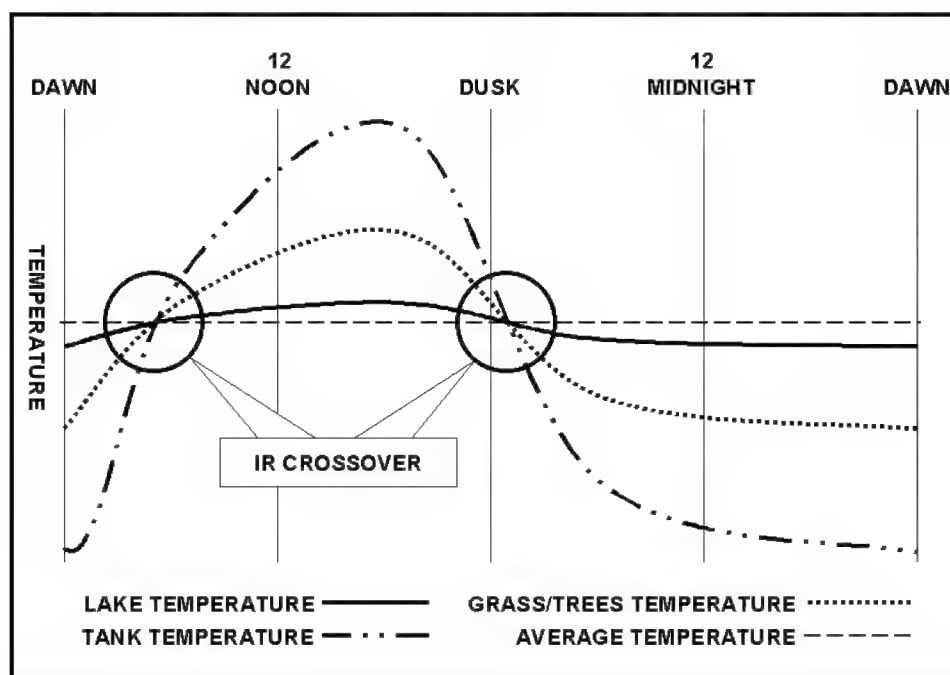

Figure E-31. IR crossover times.
- Infrared crossover. IR crossover prevents the gunner from seeing the target because everything in the target scene (the background terrain and the target) is about the same temperature. This occurs twice in a 24-hour period at dawn and again at dusk. During this time, the target is nearly the same temperature as its background, so the ΔT between the target and its background is low (Figures E-31). The Javelin detects ΔT 's as low as 1-degree Fahrenheit.